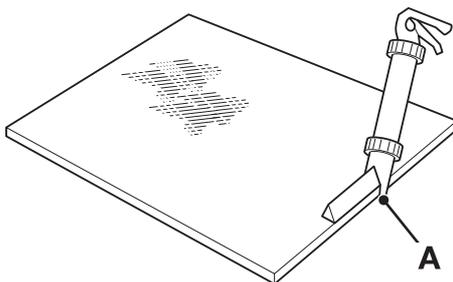

Fig 11.
- 6 Apply the pre-heated adhesive to the glass (do not start in a corner). Keep the nozzle guide **11-A** against the edge of the glass and make sure that the adhesive forms a continuous 'pyramid' shape. ⇒ Fig 11. \(□ B-54\)